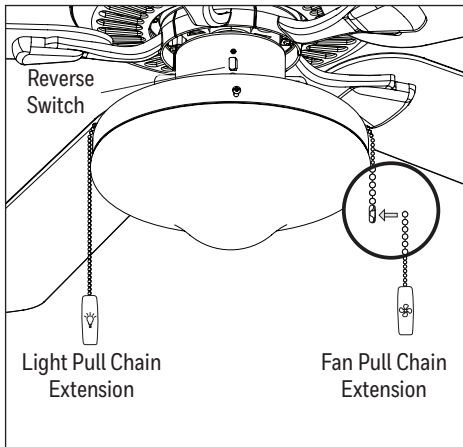

Figure 5.10
10. Attach the pull chain extensions to the pull chains (Figure 5.10). **Note:** When facing the reverse switch the light pull chain is on the left and the fan pull chain is on the right.